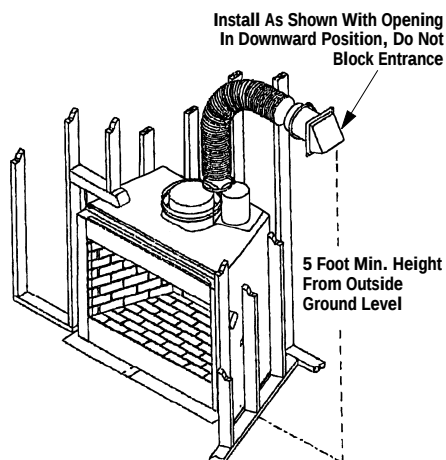

Figure 19
Step 6. Connect the 6" (102 mm) Class 0 air duct provided by installer, to the duct collar on the fireplace and secure with two (2) screws from the kit's hardware package.
Step 7. Route the Class 0 air duct out the back or side wall, up through the ceiling or floor joists to an outside wall. The air inlet hood should be located above snow level or above any anticipated snow level, (**Figure 19**).